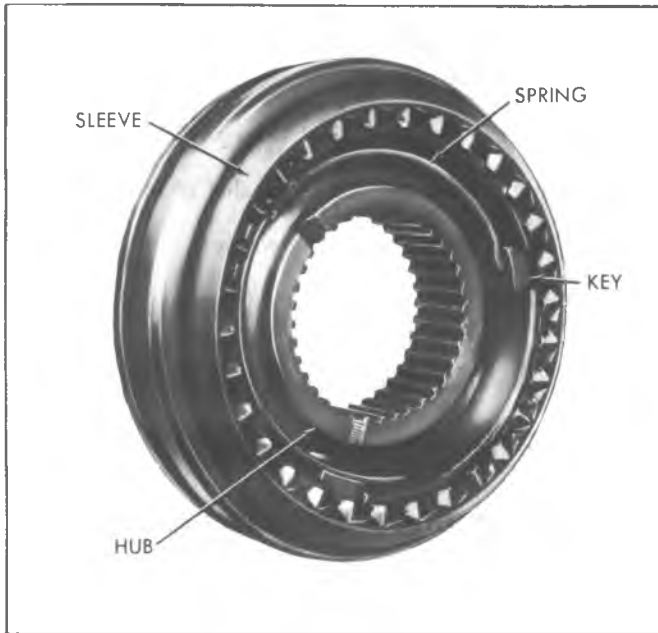

Fig. 7B-10A—Synchronizer Assembly
**ASSEMBLY OF MAINSHAFT (FIG. 7B-15A)**